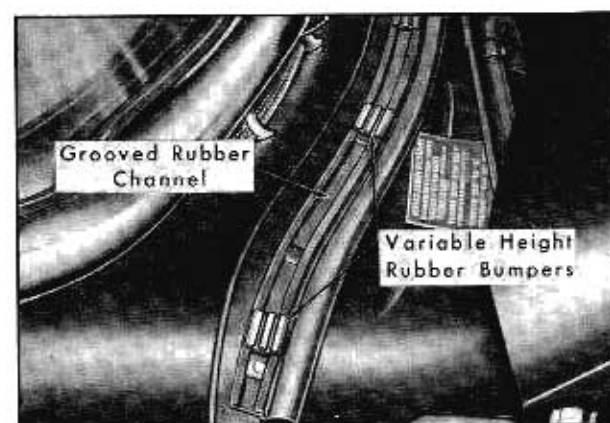

Fig. 4-4 Adjusting Hood to Cowl with Rubber Bumpers
6. Position rubber bumpers in channel along the top of the cowl ledge so that hood is  $1/16$  inch below cowl from center of car to 25 inches from centerline. From this point outward, the hood should taper from  $1/16$  inch to flush in relation to the cowl. Fig. 4-4.